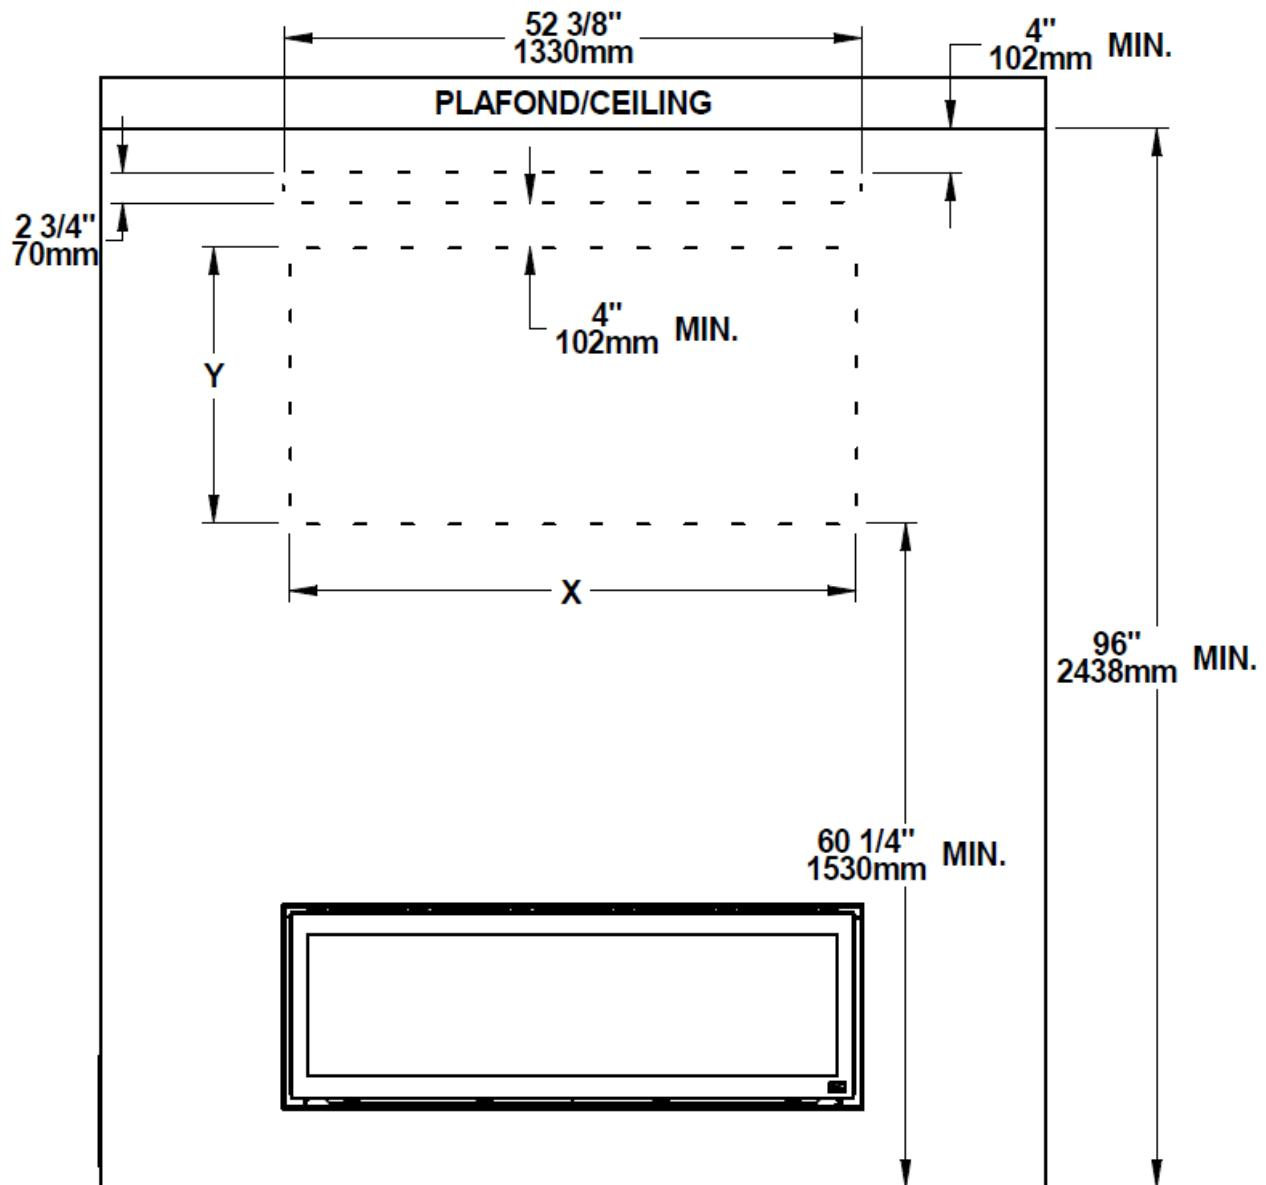

Figure 8 : Hot air vent kit positioning with television recess
Determine the location of the hot air vent (**A**) and of the recess above the fireplace as shown in Figure 8 and 9. The width (X) and height (Y) of the recess may change depending on the installation. The framing, the recess and entire front of the fireplace enclosure shall be made of non-combustible material.